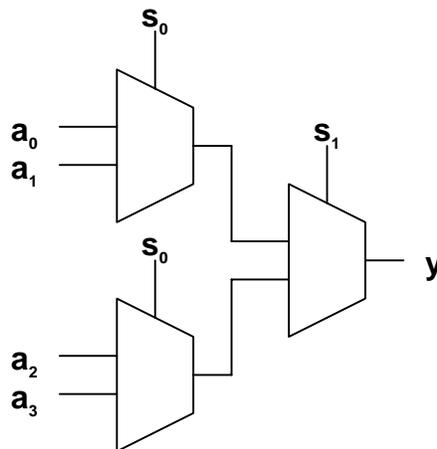

Figure 6.9 Schematic for 4-to-1 Mux using 2-to-1 Mux's
- 6.9 **(TI)** You may wonder why not take advantage of the 2-to-1 Mux we have designed earlier to build a 4-to-1 Mux. Sure, we can. A 4-to-1 Mux can be built using 3 2-to-1 Mux's as shown in Figure 6.9 below. Let us learn how to design circuit **hierarchically** using **structural modeling**.